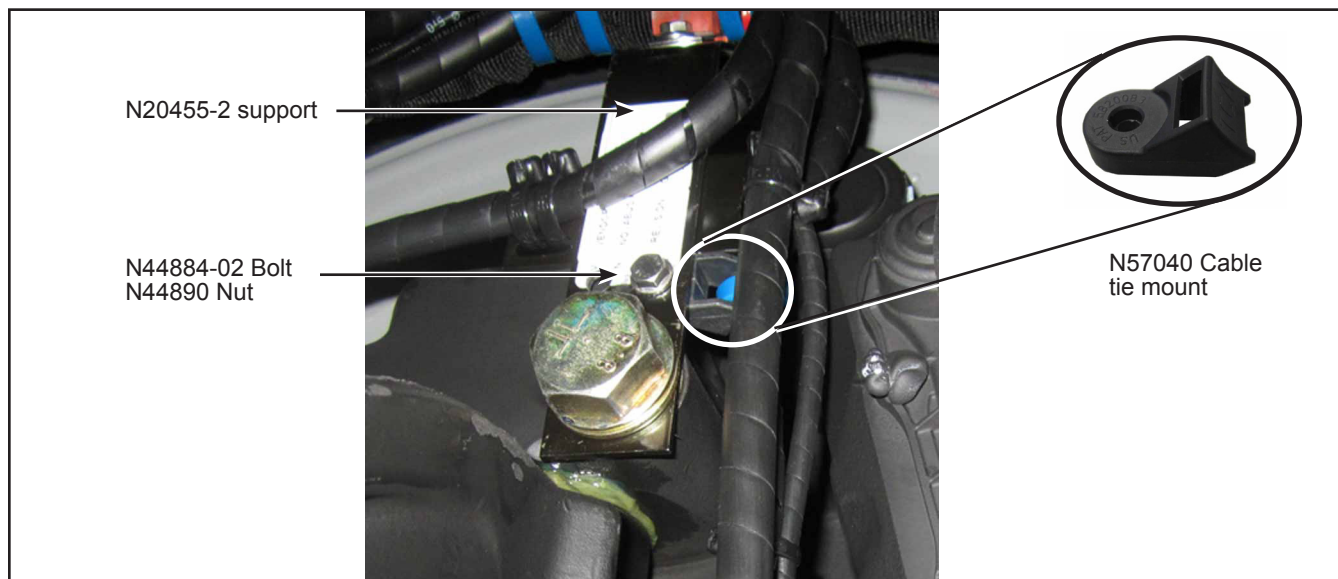

Figure 14 - N57040 Cable Tie Mount Installation
- 1.2.1. Verify that N57040 cable tie mount is installed (front axle only). See Figure 14.
- 2.17. Install the N57040 cable tie mount onto the N20455-2 support with the N44884 bolt and the N44890 nut. See Figure 14.